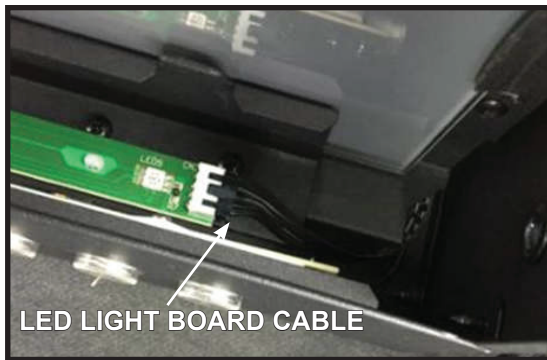

Figure 8 LED Light Board Cable
2. Locate the Fuelbed LED Light Board cable. See Figure 8.